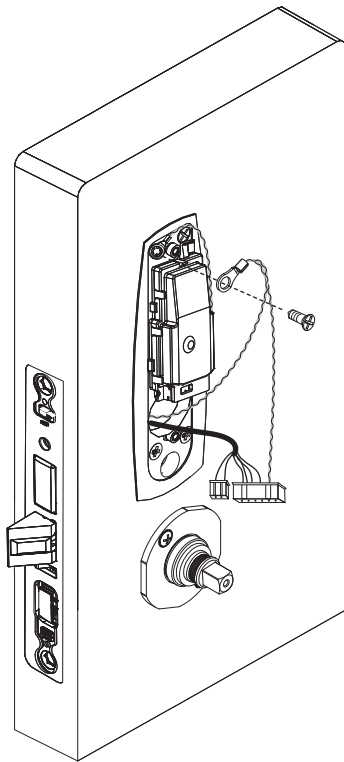

Figure 10
3. Twist into place, perpendicular with door (Figure 10).
4. Position green/yellow ground wire ring terminal (from lock body) over hole for top left screw (Figures 10 and 11).
5. Position green/yellow reader harness earth ground on top of ground ring and thread both with (1) #8-32 x 3/8" Phillips flat head undercut combo screw (Figures 10 and 11).